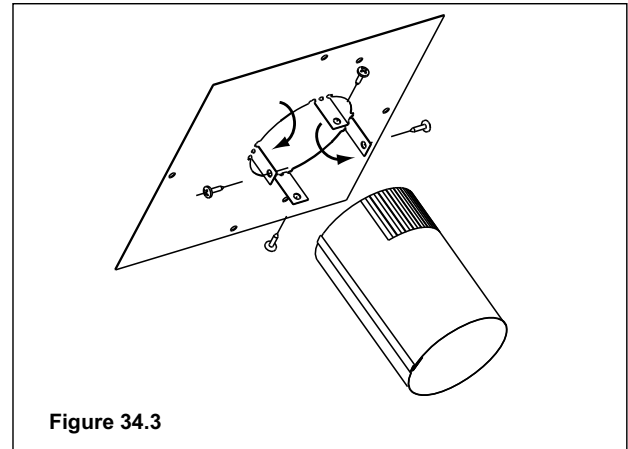

Figure 34.3
5. On the Mounting Plate, hand bend the tabs downward. Slide the tabs over the outside of the starter pipe. Secure with 4 sheet metal screws included in fasteners package. Figure 34.3.